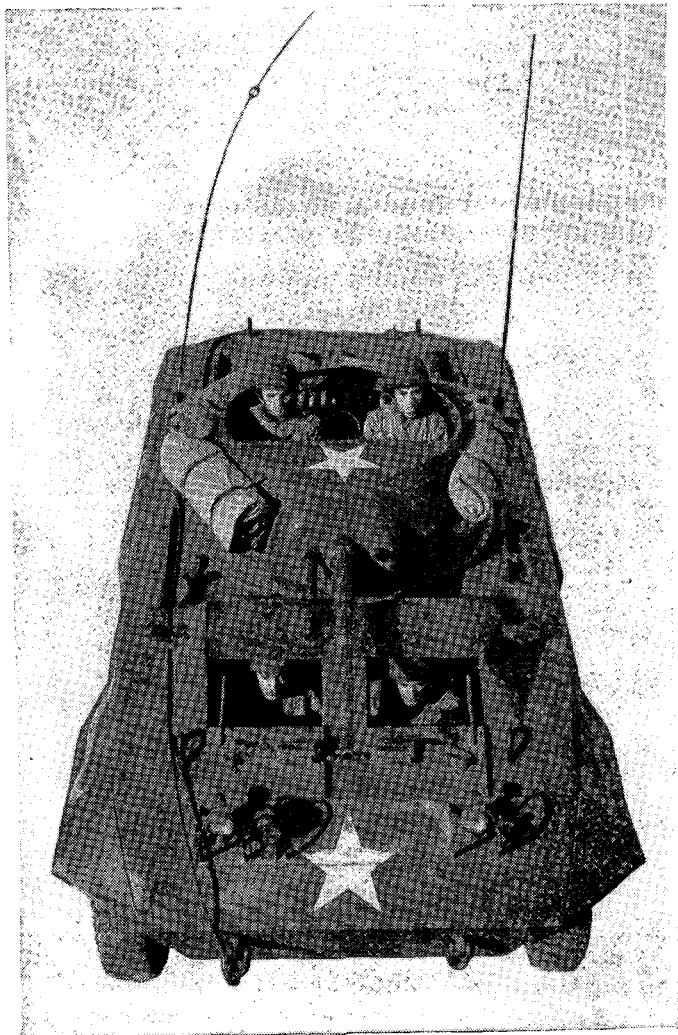

FIGURE 4.—Crew at MOUNTED POSTS.
*b. Mounted posts.*—The crew forms mounted as follows (see fig. 4):